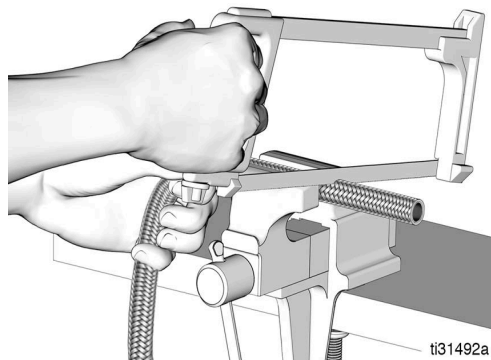

FIG. 58
2. Cut the hose square with a fine-tooth hacksaw or cut-off wheel (FIG. 58).